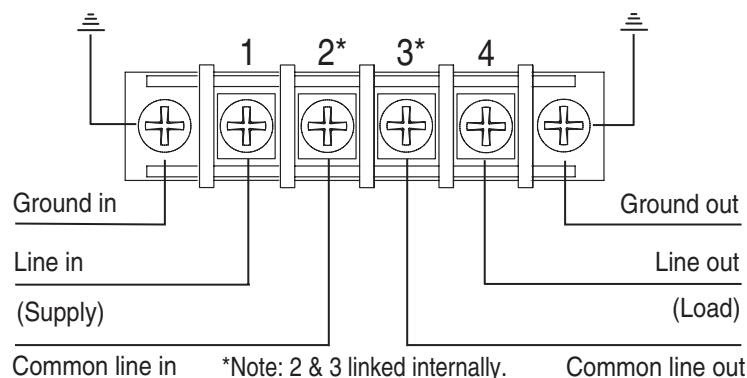

Fig 3
6. Connect unit as shown in Fig 3 using 2mm² (14AWG), DPI52 S series & 5mm² (10AWG), DPI52 L series copper panel wire.